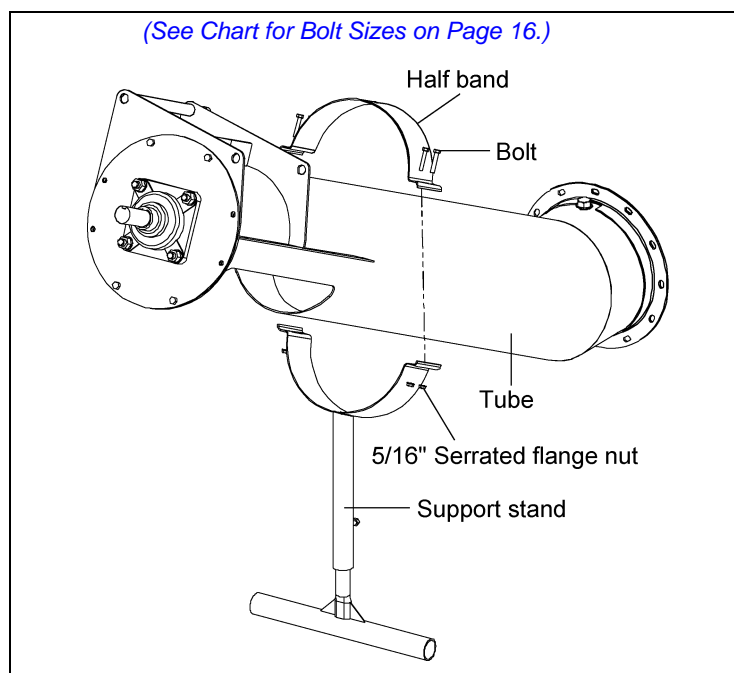

Figure 4C
1. Place support stand and half band around tube and secure together with 5/16" bolts and serrated flange nuts. (See Figure 4C.)